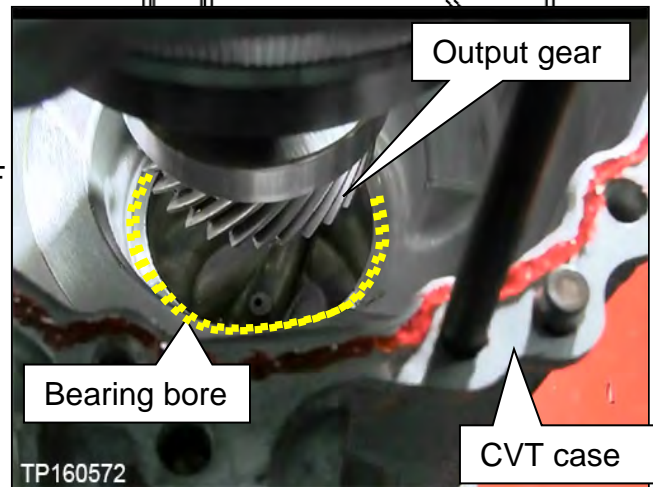

Figure 33F
- While visually looking down into the bore (Figure 33F) to confirm that the output gear is clearing the CVT case bearing bore,